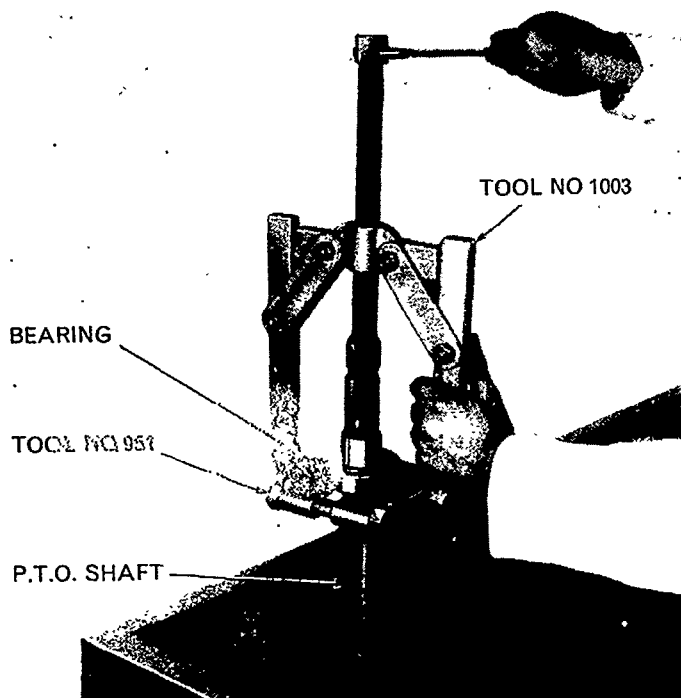

Figure 1
9. Using Tools Nos. 1003 and 951 pull the bearing, also the collar on Dexta 2000 and Super Dexta 3000 tractors, from the shaft, Figure 1.
2. Press the ball bearing onto the shaft from the front using Tools Nos. 951 and 1003 until it seats against the collar (or snap ring Major 4000), Figure 1, and install a new locating snap ring.
3. Install a new oil seal in the P.T.O. bearing retainer using step adaptor (630).